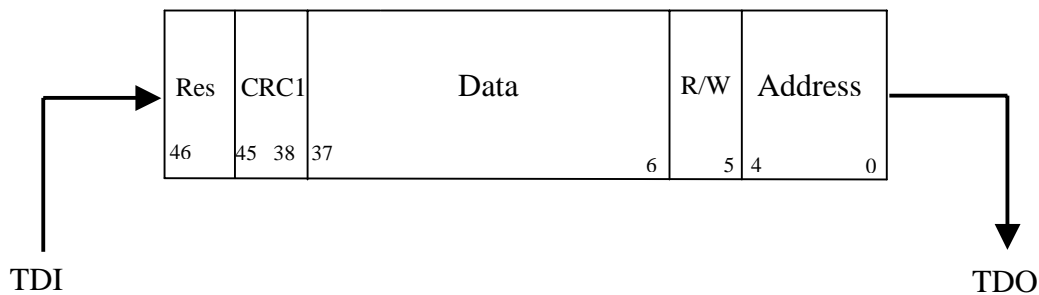

Figure 7: Register Scan Chain (data shifted in)
- ✓ CRC1 is shifted in (Figure 7: Register Scan Chain (data shifted in)). The host calculates it from the address, R/W bit, and data that is sent in.